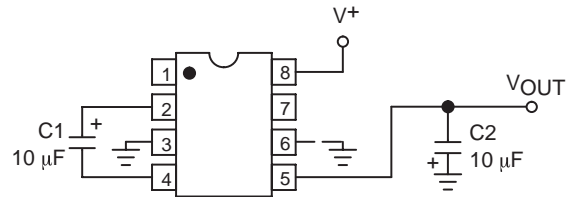
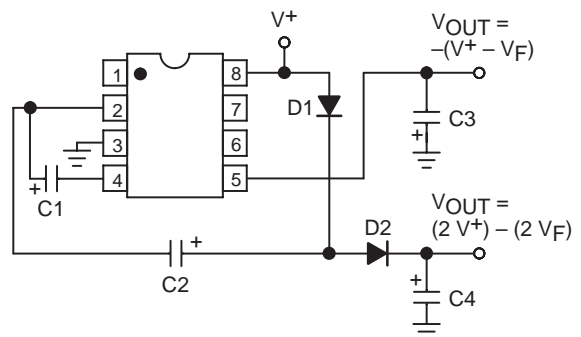
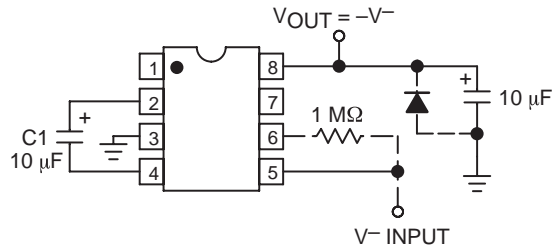
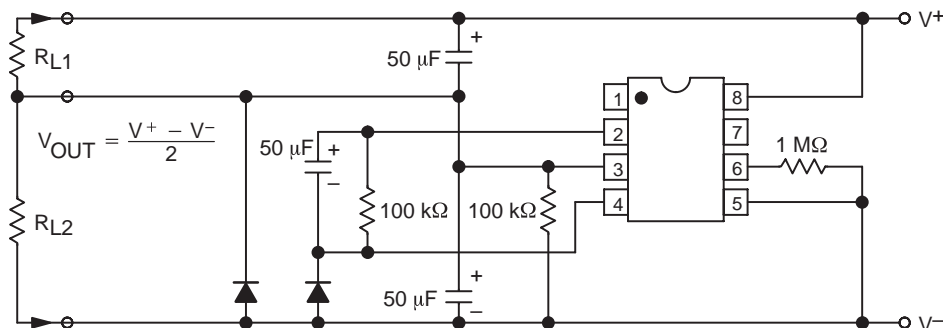

Figure 3. Simple Negative Converter
Figure 9. Combined Negative Converter and Positive Multiplier
Figure 10. Positive Voltage Conversion
Figure 11. Splitting a Supply in Half
Figure 3 shows typical connections to provide a negative supply where a positive supply is available. A similar scheme may be employed for supply voltages anywhere in the operating range of +1.5V to +10V, keeping in mind that pin 6 (LV) is tied to the supply negative (GND) only for supply voltages below 3.5V.
The output characteristics of the circuit in Figure 3 are those of a nearly ideal voltage source in series with 70Ω. Thus, for a load current of -10mA and a supply voltage of +5V, the output voltage would be -4.3V.
Figure 9 combines the functions shown in Figures 3 and 8 to provide negative voltage conversion and positive voltage multiplication simultaneously. This approach would be, for example, suitable for generating $+9V$ and $-5V$ from an existing $+5V$ supply. In this instance, capacitors C_1 and C_3 perform the pump and reservoir functions, respectively, for the generation of the negative voltage, while capacitors C_2 and C_4 are pump and reservoir, respectively, for the multiplied positive voltage. There is a penalty in this configuration which combines both functions, however, in that the source impedances of the generated supplies will be somewhat higher due to the finite impedance of the common charge pump driver at pin 2 of the device.
Since the switches that allow the charge pumping operation are bidirectional, the charge transfer can be performed backwards as easily as forwards. Figure 10 shows a ICL7660 transforming $-5V$ to $+5V$ (or $+5V$ to $+10V$, etc.). The only problem here is that the internal clock and
switch-drive section will not operate until some positive voltage has been generated. An initial inefficient pump, as shown in Figure 9, could be used to start this circuit up, after which it will bypass the other (D_1 and D_2 in Figure 9 would never turn on), or else the diode and resistor shown dotted in Figure 10 can be used to "force" the internal regulator on.
The same bidirectional characteristics used in Figure 10 can also be used to split a higher supply in half, as shown in Figure 11. The combined load will be evenly shared between the two sides. Once again, a high value resistor to the LV pin ensures start-up. Because the switches share the load in